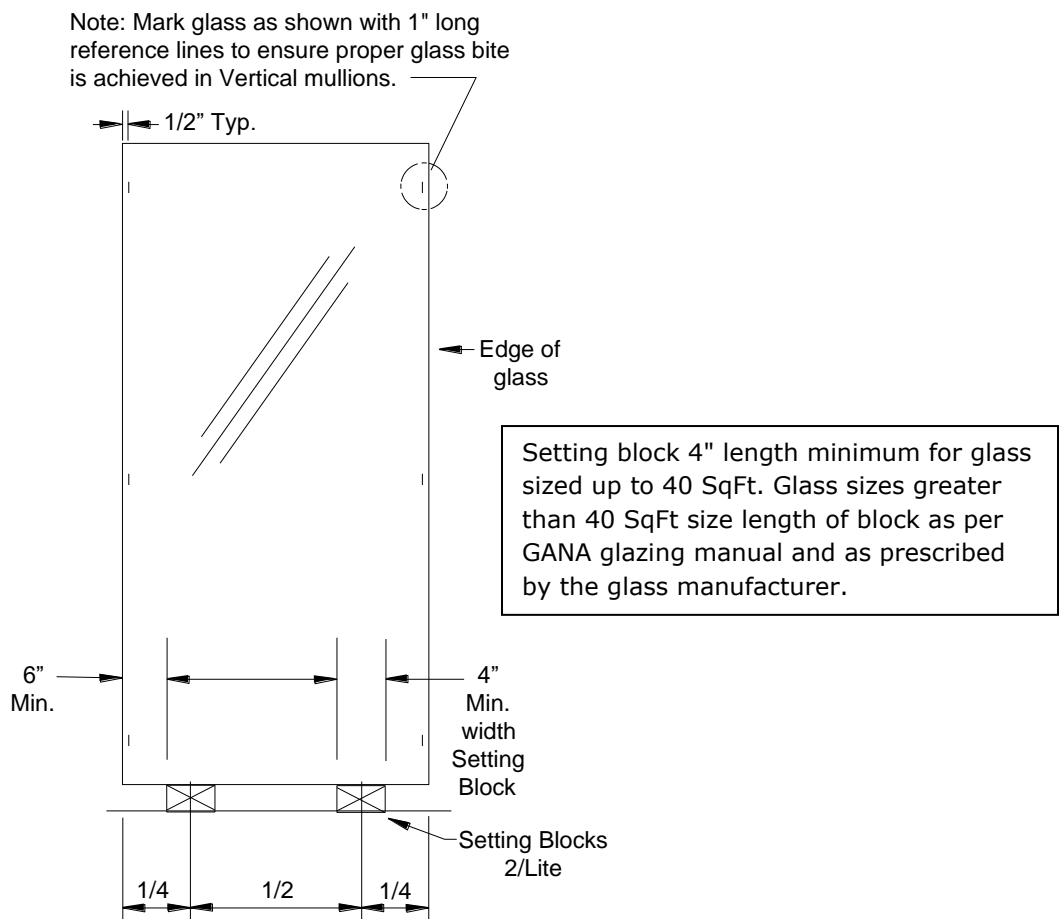
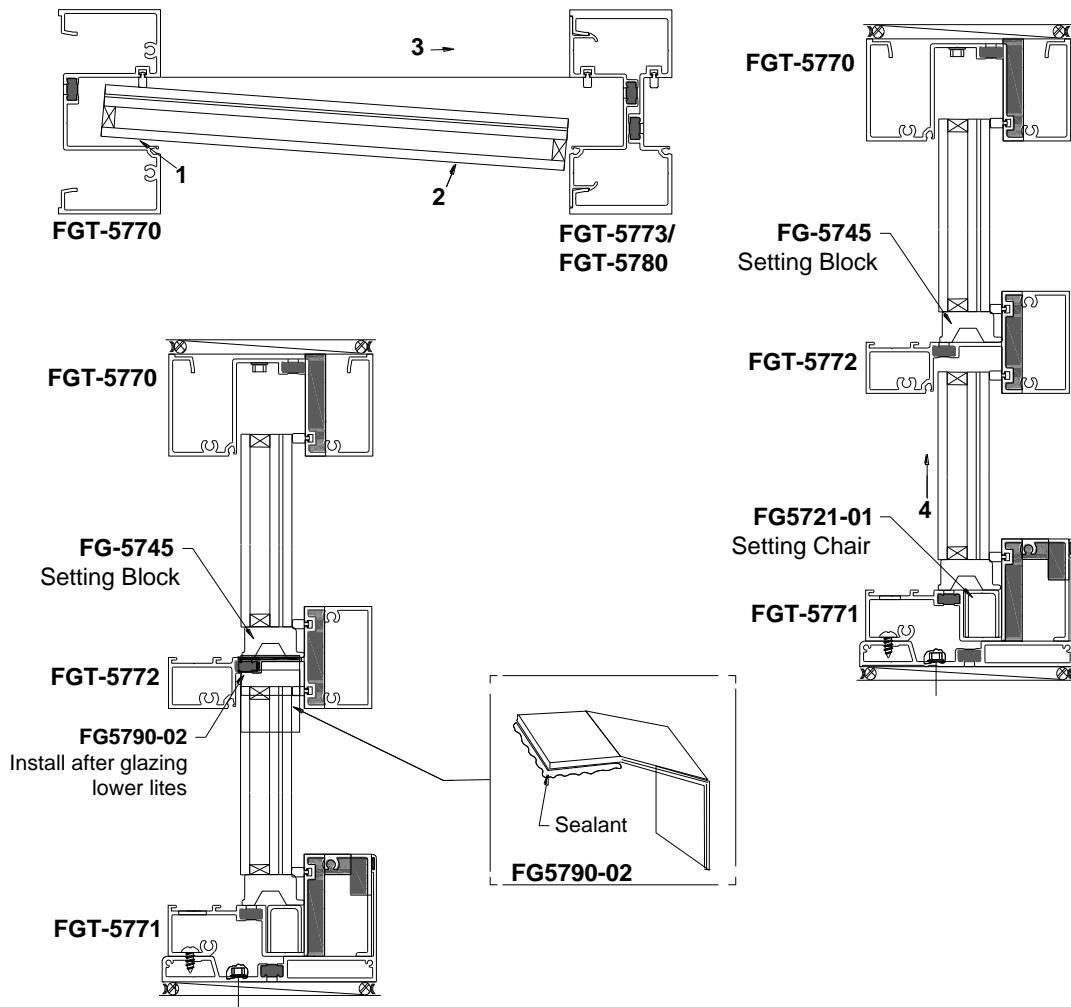

Figure 22: Glass Marking and Setting Blocks
Figure 23: Wet Glaze Glass Installation
16.1.4 Install **FG5721-01** Setting Chair in Sill and **FG-5745** Setting Block at quarter points of each lite or as specified by glass manufacturer. See Figure 22 and Figure 23.